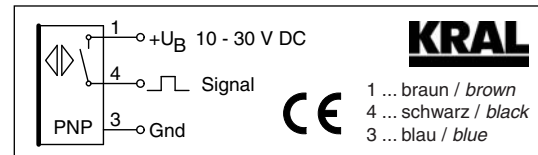

Fig. 4 Terminal diagram BEG 43D/BEG 46D
5. Connect the pick up plug **493**. Observe the terminal diagram, see Fig. 4, page 29.